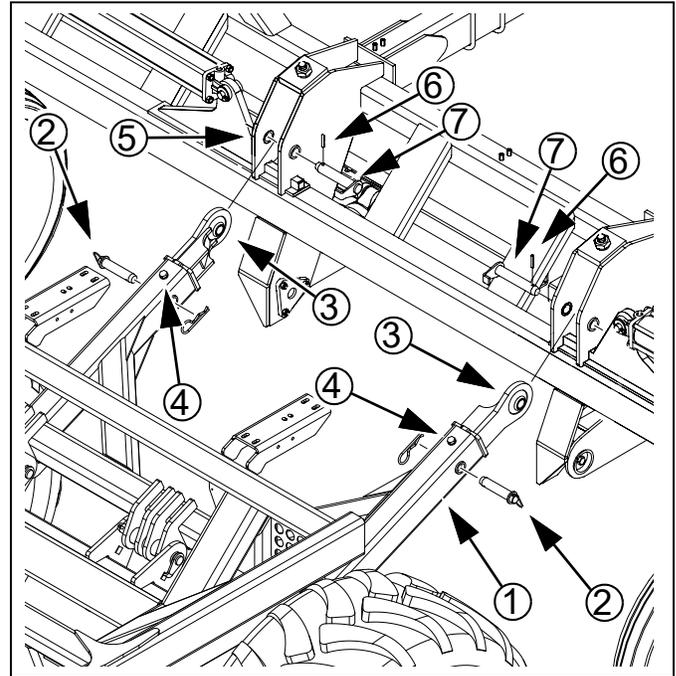

Figure 4
**Refer to Figure 4,** which, for clarity, depicts the air cart without the rear hopper
1. Use a line (not shown), from the cart walkboard, to tie the cart links ① up to the height of the lug holes ⑤ in the implement.
2. Remove the pins ② near the ball swivel links ③ of the arms, allowing the arms to telescope. Do not remove the stop bolts ④.
3. Drive the roll pins ⑥ out of the lug pins ⑦ and remove the lug pins.
4. Have a tractor slowly guide the cart backwards until the link arm ball swivels are within two feet (61 cm) of the lug holes ⑤ in the implement. Set tractor brake.
5. Manually extend each arm's ball swivel ③ into alignment with the implement pivot holes ⑤. Insert and secure the lug pins ⑦ on the implement.
6. Release tractor brakes, and slowly back the tractor up until the arm pins may ② be reinserted. Secure them with clips.